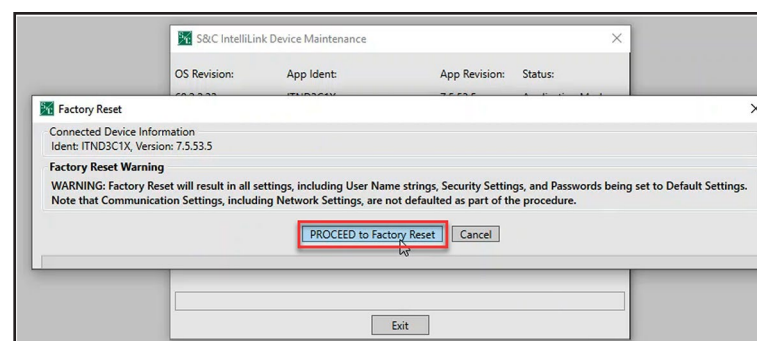

Figure 61. The Proceed to Factory Reset button.
STEP 4. Click on the **Proceed to Factory Reset** button when prompted. See Figure 61.